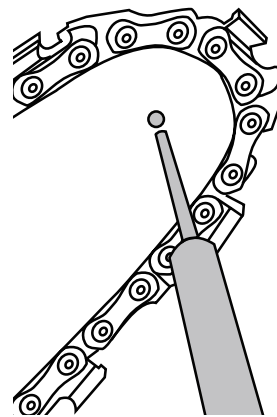

Fig. 14
2. Using a grease gun, insert the tip of the gun into the lubrication hole and inject grease until it appears at the outside edge of the sprocket tip (Fig. 14).